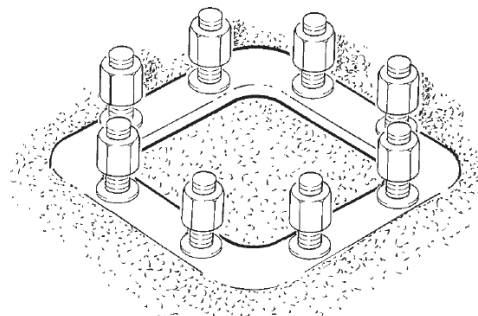

fig.18
3. Sink the frame prepared in this way in the plinth casting, taking care that the upper plate remains on the same level as the floor (fig.18) Protect the threadings of the logbolts to avoid damage.